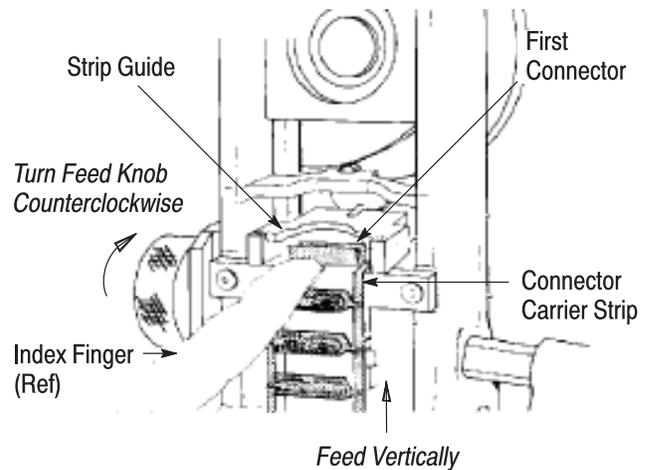

Figure 4
6. Place the box directly below the applicator. The box can be laid down or raised off the ground by running a lacing cord or wire through the rewind slot of the box. Position the box in a manner that will allow the connector carrier strip to feed vertically into the applicator. Feed the first connector STRAIGHT into the strip guide as far as it will go. See Figure 4.
7. Turn the feed knob *counterclockwise* one full turn. See Figure 4.